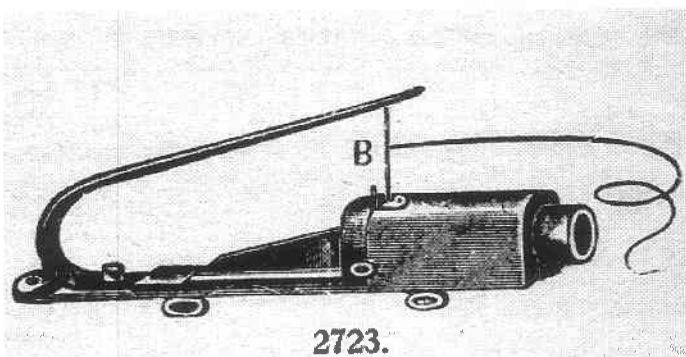
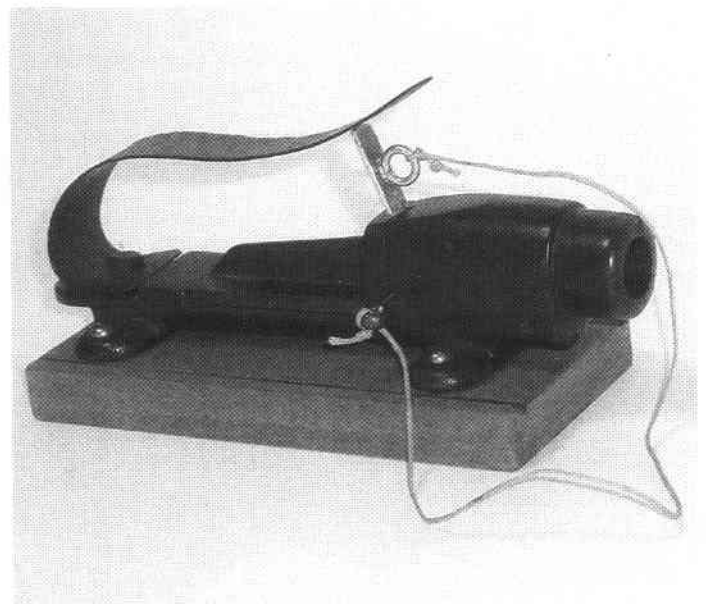

Figure 39. Advertisement from Alfa 1911 catalog showing a pinfire trap gun.
Figure 40. Pinfire trap gun similar to the one shown in Figure 39.
A few trap guns are found from Europe. One is listed in a reproduction of French company Adolp Frank's ALFA 1911 Catalog¹⁵ of small arms, hunting and outdoor equipment (Figure 39). The trap gun is 12 gauge pinfire, 8 ½ inches long with a 3 ¼-inch-long barrel (Figure 40). The breech block lifts away from the barrel, which has Belgian proof marks, and is secured by a cotter pin that engages a groove in both the barrel and breech block. The hammer is a curved flat steel spring and is held in the upraised cocked position by a small metal piece with a small ring in the center. A string
1. Gerstell, R. 1985. *The Steel Trap in North America*. Stackpole Books, Harrisburg, Pennsylvania. 352 pp. Fig. 40, page 61. Drawing reproduced by Ron Monro.